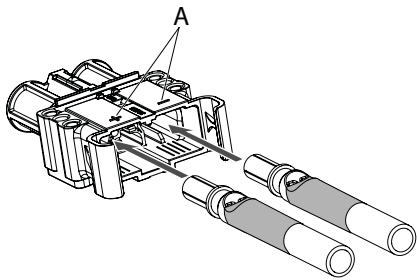

Fig. 42:
An incorrect connection could result in a fatal electric shock. Observe the polarity markings (+) and (-) on the battery socket (Fig. 42/A).
1. Push in the main contacts with crimped cables as far as they will go into the battery socket housing (Fig. 42).